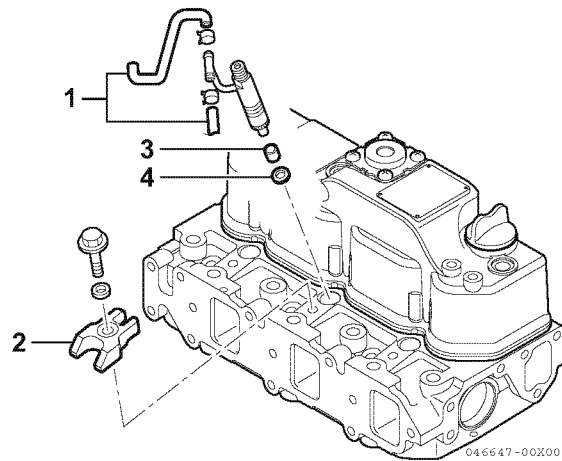

Figure 7-44
3. Remove the return fuel hoses (**Figure 7-44, (1)**) from one side of each fuel injector.
4. Remove the bolts and washers that secure the fuel injector retainers (**Figure 7-44, (2)**) to the cylinder head.
7. Remove the injector nozzle protector (**Figure 7-44, (3)**) and seat (**Figure 7-44, (4)**) from the cylinder head.